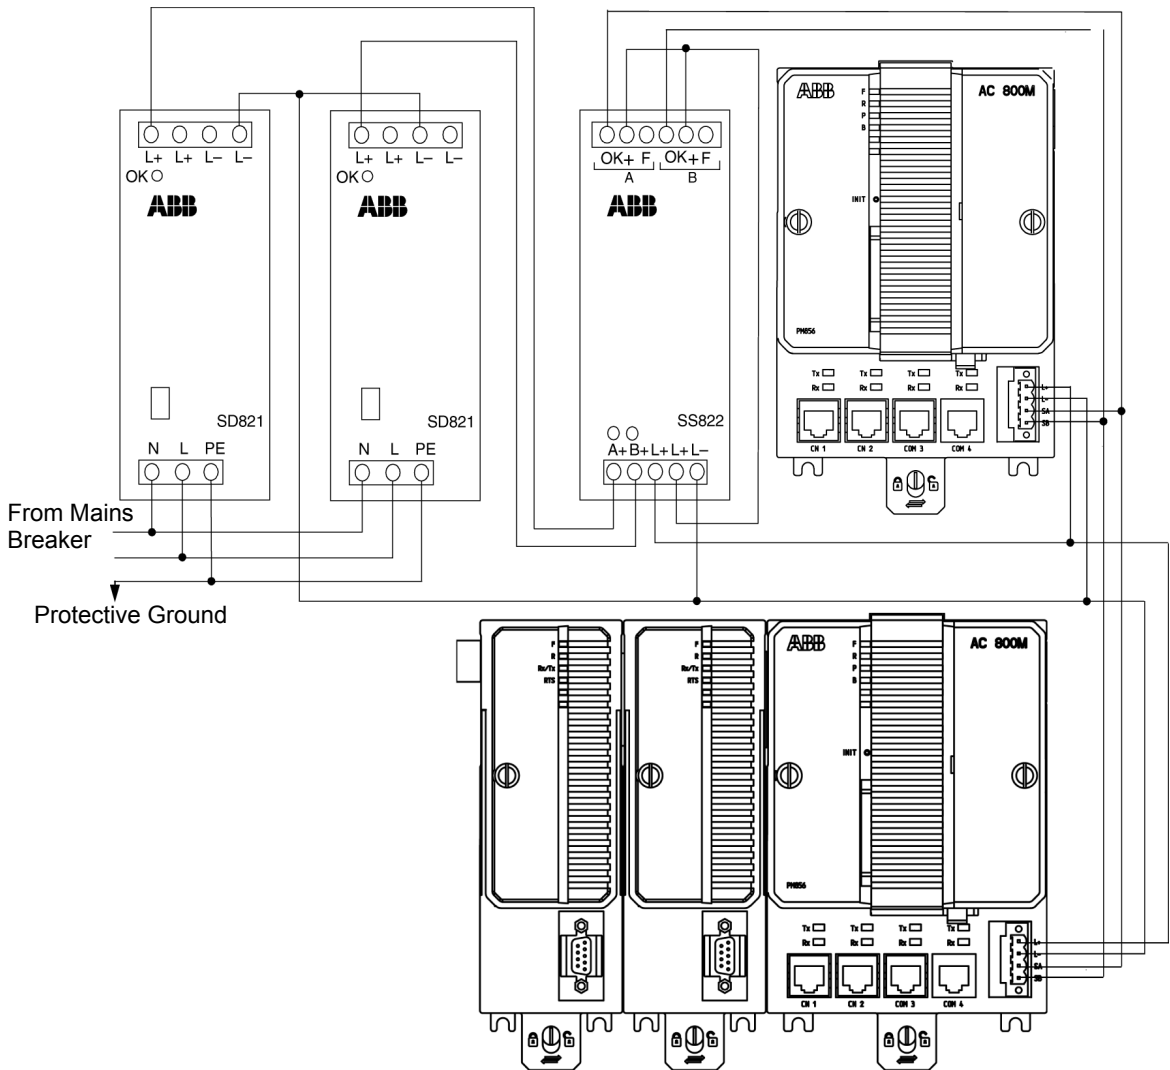
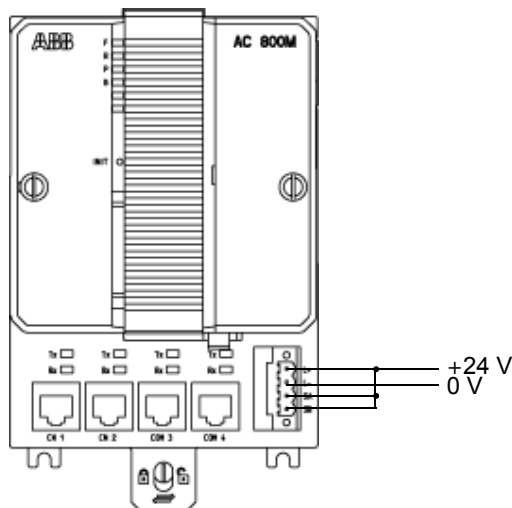
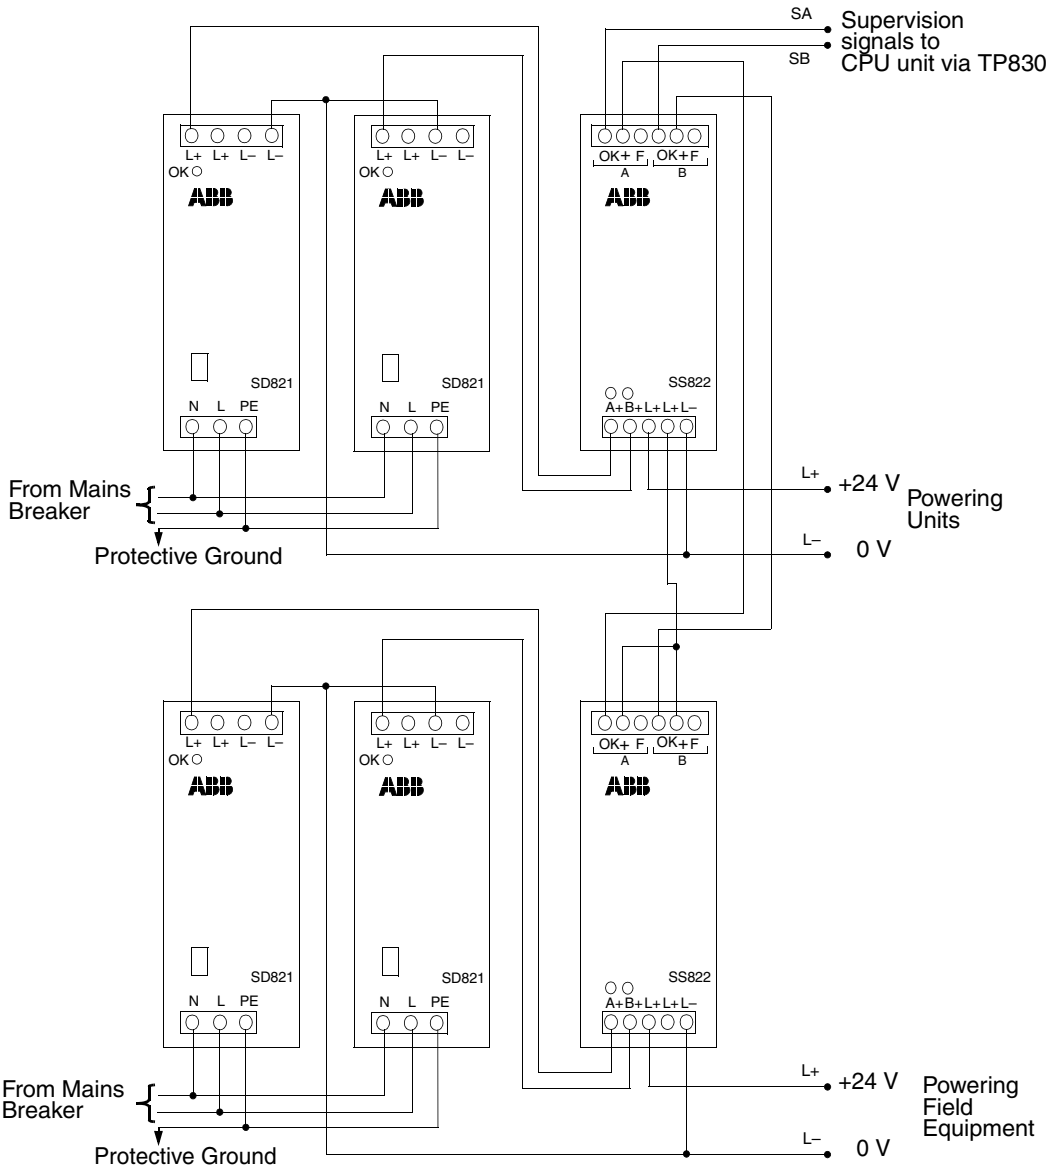

Figure 51. Redundant Power Supply Powering Redundant CPUs
Figure 52. Connection of SA/SB using Single Power Supply
Figure 53. Redundant Power Supply Powering Units and Field Equipment
3. Connect the SS82x voting unit to the processor unit. Figure 51 on page 148 shows the connection to PM858/PM861/PM862/PM864/PM865/PM866/PM867 in redundant configuration.
+24 V on the SA/SB indicates working power supplies. 0 V on SA/SB indicates an error in the corresponding power supply and lack of redundancy. SA/SB signal connection is shown in Figure 51 on page 148, Figure 52 on page 149 and Figure 53 on page 150.
Figure 51 on page 148 show redundant power supplies powering AC 800M units. Here the SA/SB signals also indicate physical power supplies.
Figure 53 on page 150 shows one redundant power supply powering the AC 800M units and one for powering field equipment. An SA/SB error indication can not indicate which physical power supply that has failed, only that there is a failure.
To avoid error indications from SA/SB when single power supply is used, it is recommended to connect the input terminals SA/SB on the CPU to +24 V, see Figure 52.